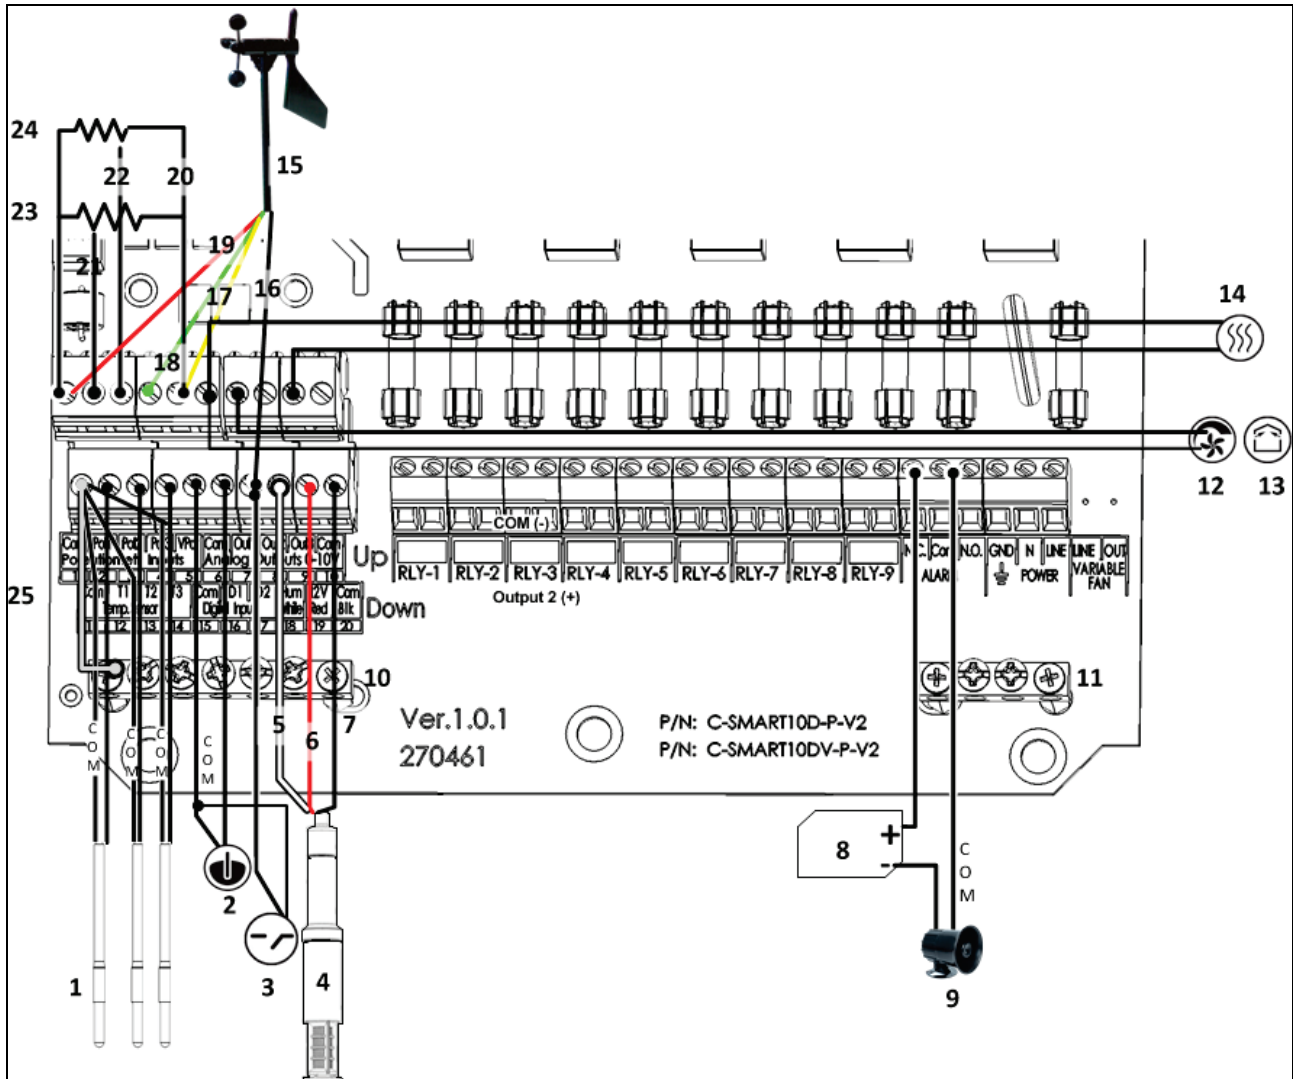

Figure 9: Smart D Wiring Diagram of Low Voltage Section
Figure 9 key
- Install temperature sensors as shown in Figure 2 and Figure 9.
🔄 Using this function requires an installed humidity sensor. Refer to Figure 2 and Figure 9.